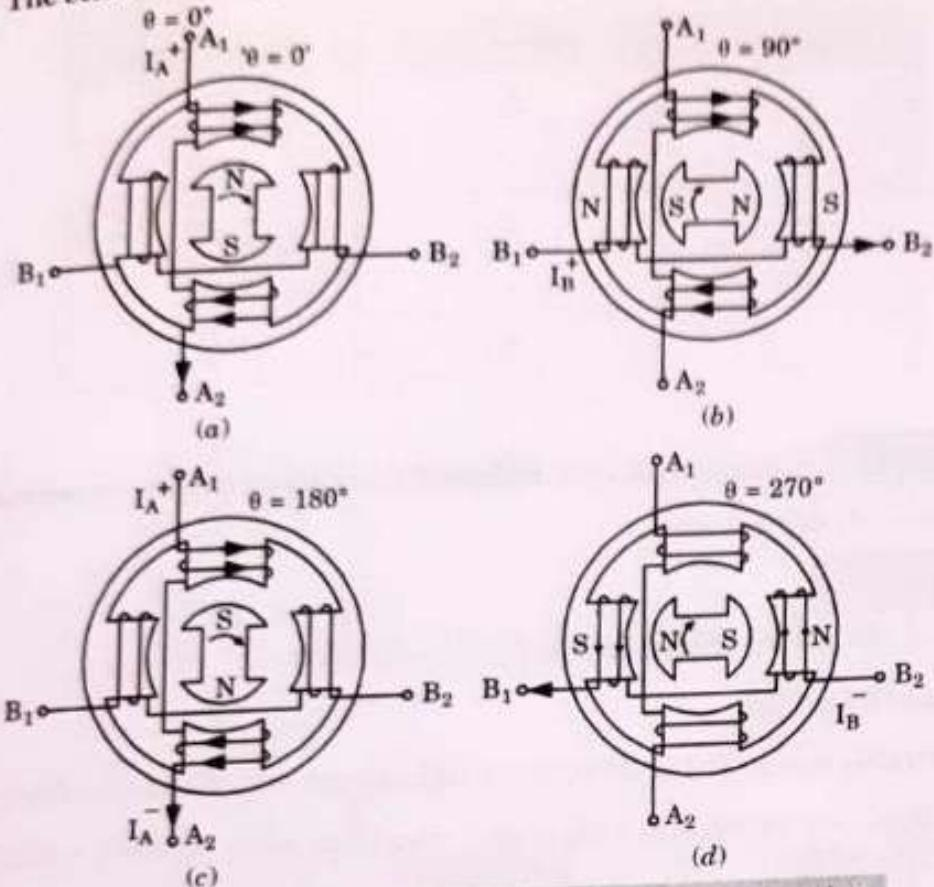

Fig. 2.3.1. 2 ϕ , 4/2 pole, permanent magnet stepper motor.
5. It is shown in Fig. 2.3.1(a), here angle of rotation is zero then the phase B winding is energized, it is shown in Fig. 2.3.1(b).
8. Then the rotor rotates through another 90° in clockwise direction. It is shown in Fig. 2.3.1(c) here $\theta = 180^\circ$.
10. Then the rotor rotates through another 90° in clockwise direction. Here $\theta = 270^\circ$, it is shown in Fig. 2.3.1(d).